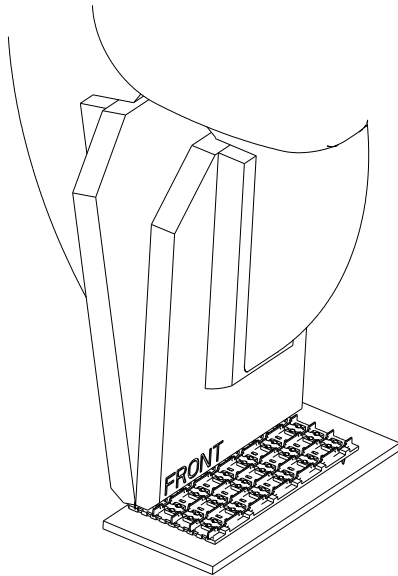

Figure 8
3. Close the tool, bringing both plates together and gripping the row of contacts. Refer to Figure 8.